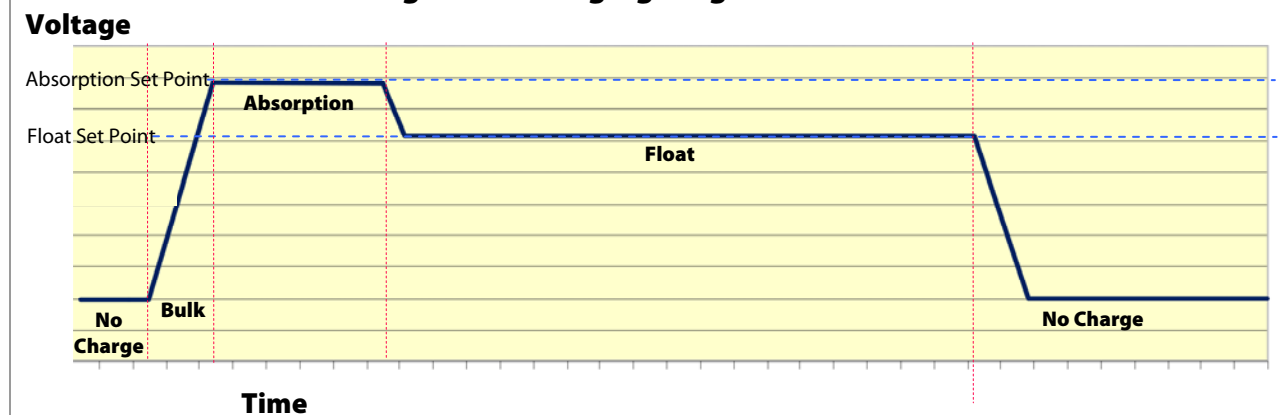

Figure 4 Charging Stages Over Time¹ (Generator mode)
- The process shown in Figure 4 eliminates Silent, Float Timer, and other parts of the process. Figure 4 is only applicable when the Radian inverter is in the **Generator** input mode.
NOTE: If the Radian inverter is placed in the **Generator** input mode, the charger skips Silent and proceeds directly to Float stage (see Figure 4 on page 21). It will remain in Float until AC power is disconnected, which usually means that the generator was stopped manually or automatically. See page 9 for more information on this mode.